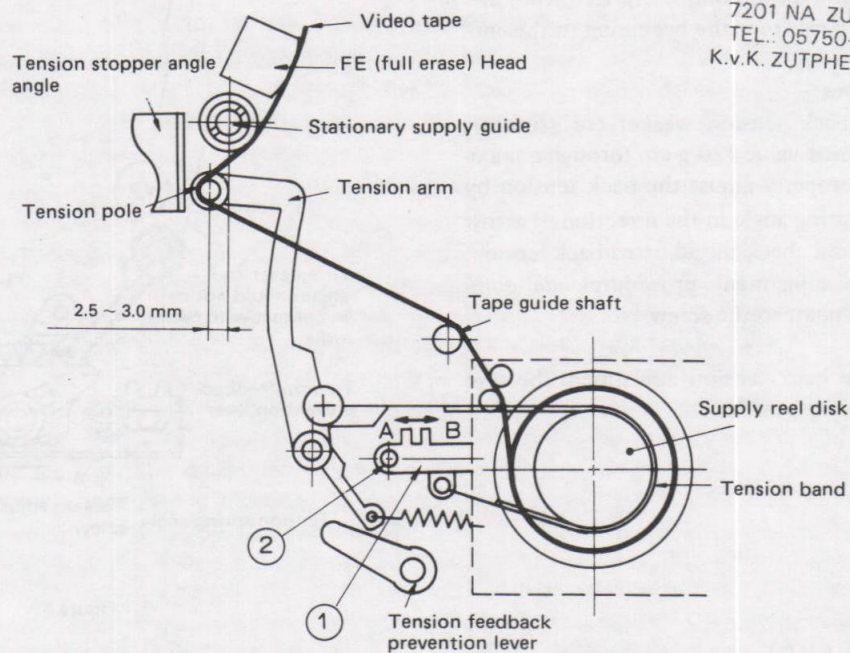

Figure 27
- ① After the adjustments are completed, be sure to apply the screw locks.
- ② Tighten screws using 2.5 kg. cm of the torque.
- ① If the position of the tension pole is within 2.5 mm to the left from the center of the stationary supply guide, move the tension band adjustment angle ① in the direction of arrow (B) so that screw ② will be tightened, as shown in Fig. 27 below.
- ② If the position of the tension pole is more than 3 mm to the right from the center of the stationary supply guide, move the tension band adjustment angle ① in the direction of arrow (A) so that screw ② will be tightened, as shown in Fig. 27.